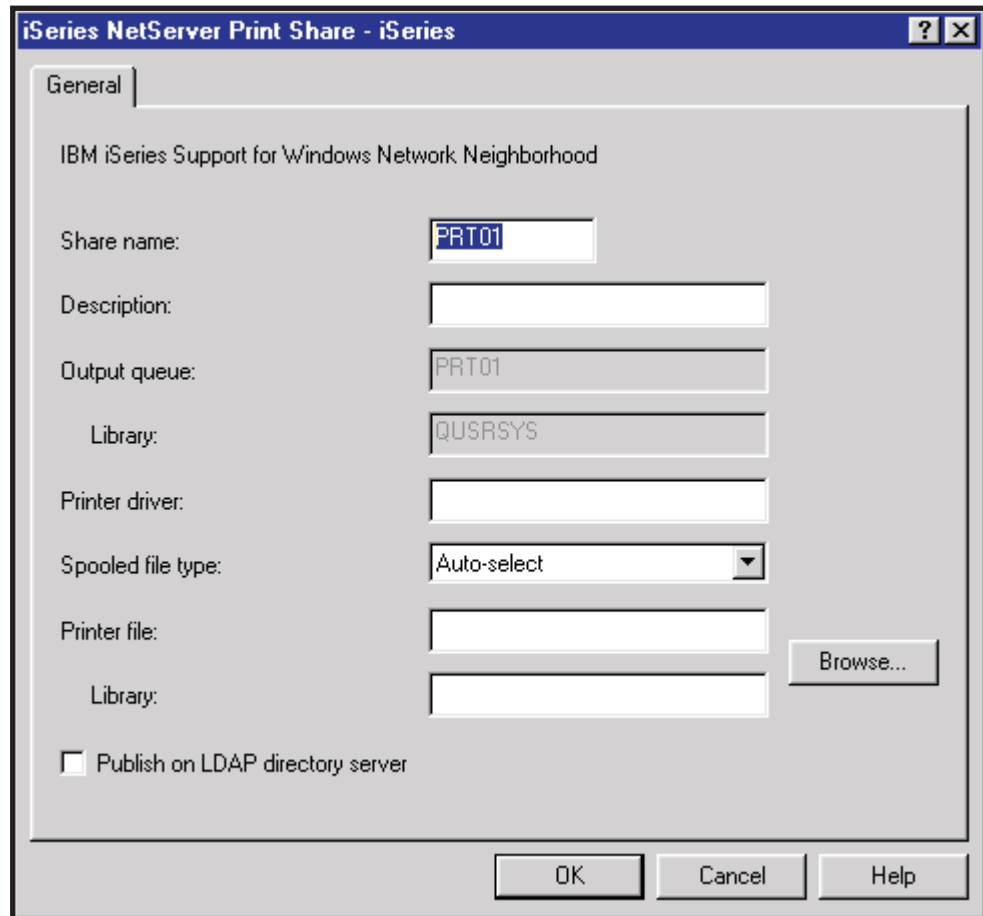

Figure 126. iSeries NetServer Print Share Dialog
6. The **iSeries NetServer Print Share** dialog opens, as shown in Figure 126 on page 237.